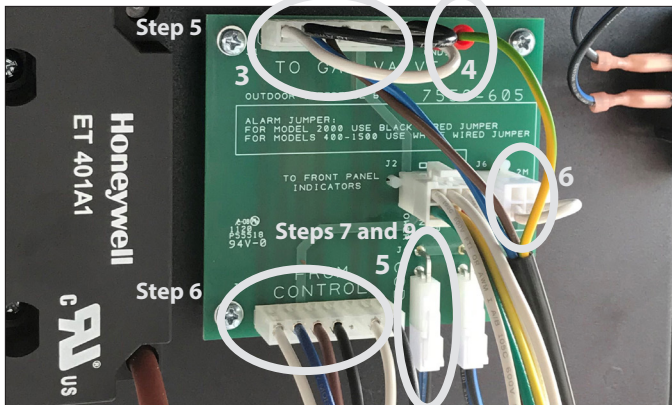

Figure 16 - Wired Outdoor Interface Board
- Plug the unplugged end of the 7-pin cable (3) into J1 (TO GAS VALVE) and wire the ground tab (4) into GND1 of the OIB.
- Insert one end of the included 7-pin interface cable (1) into X9 on the control, then insert the other end of the 7-pin interface cable into J3 (FROM CONTROL) of the OIB.
- Unplug the 2-pin connector labelled X8 on the 928 control and plug it into the 2-pin connector J4 (CCB) (5) of the OIB. See Figure 16.
- Plug one end of the 2-pin interface cable into the 2-pin connector labelled X8 (2) on the 928 control. See Figure 16.